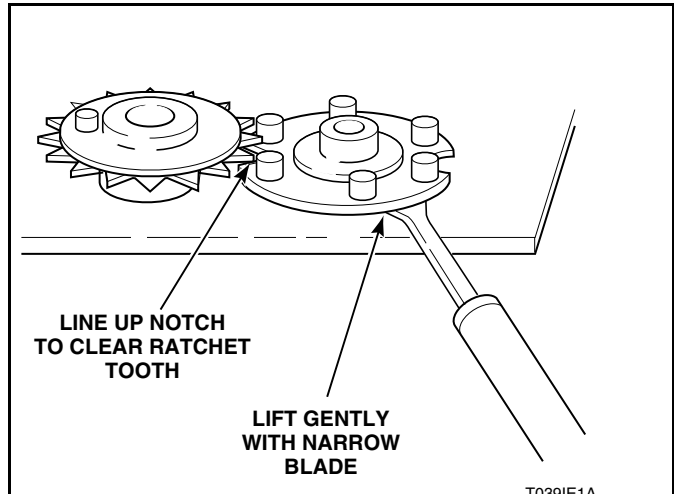

Figure 12
1. Rotate cam by hand until “V” notch lines up beneath the ratchet tooth. Refer to *Figure 12*.